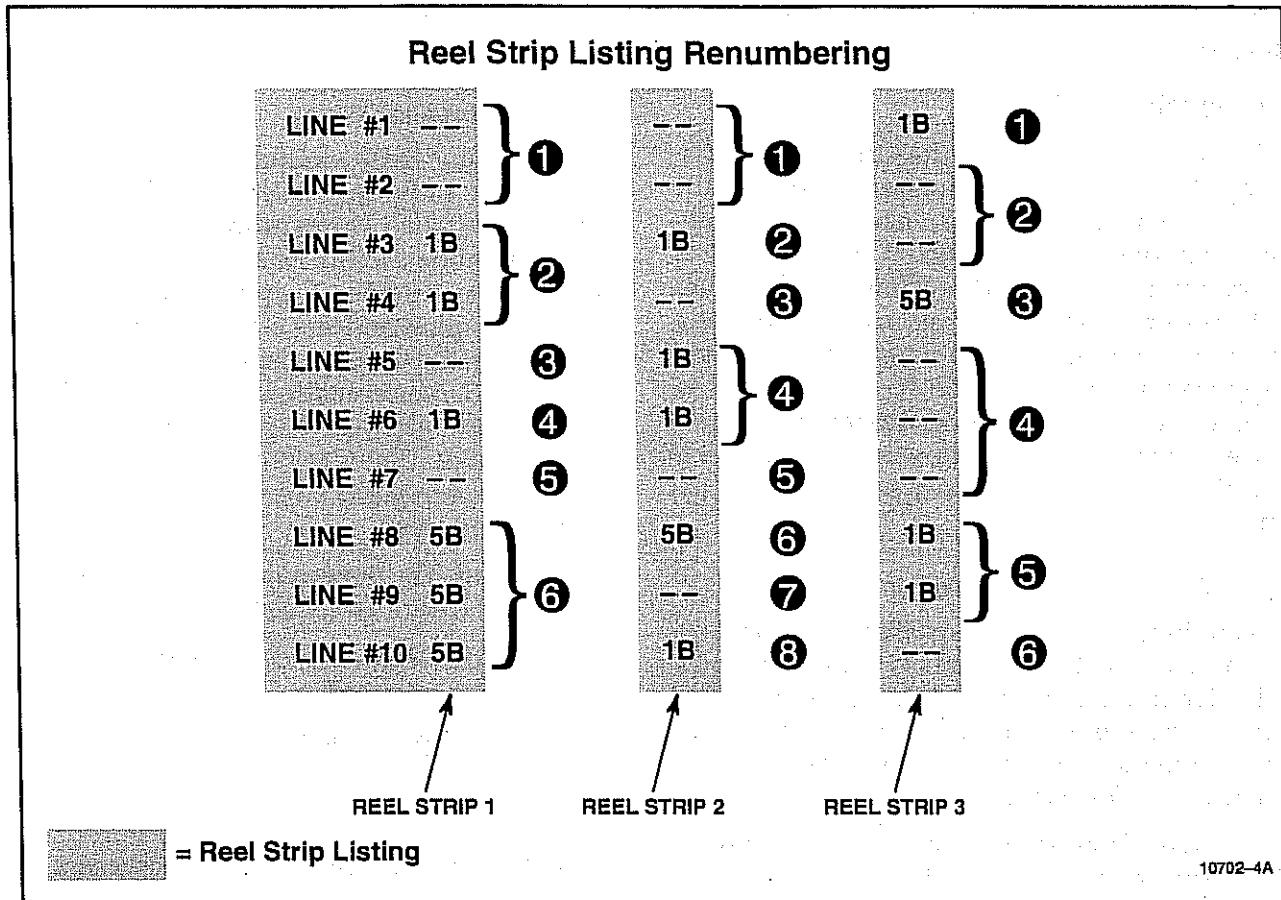

Figure 4-2. Reel Strip List Example.
Re-number the lines on the expanded reel strip listing by combining consecutive, identical symbols together to form one stop (line), as shown in the Figure 4-2 example.
Refer to Figure 4-2 and consider the beginning of first of three reel strips shown vertically: a blank on lines 1 and 2 would combine to become stop #1; a 1B (one bar) symbol on lines 3 and 4 would be combined into stop #2, a blank or ghost on line 5 would be a stop by itself (stop #3); a 1B on line 6 would be a stop by itself (stop #4); a blank on line 7 would be a stop by itself (stop #5) and a 5B on lines 8, 9 and 10 would combine to be stop #6.
3. Both expanded and implied reel strip programs have more than 22 lines on the Reel Strip List and therefore follow the pattern created by renumbering the reel stops/lines, shown in Figure 4-2.